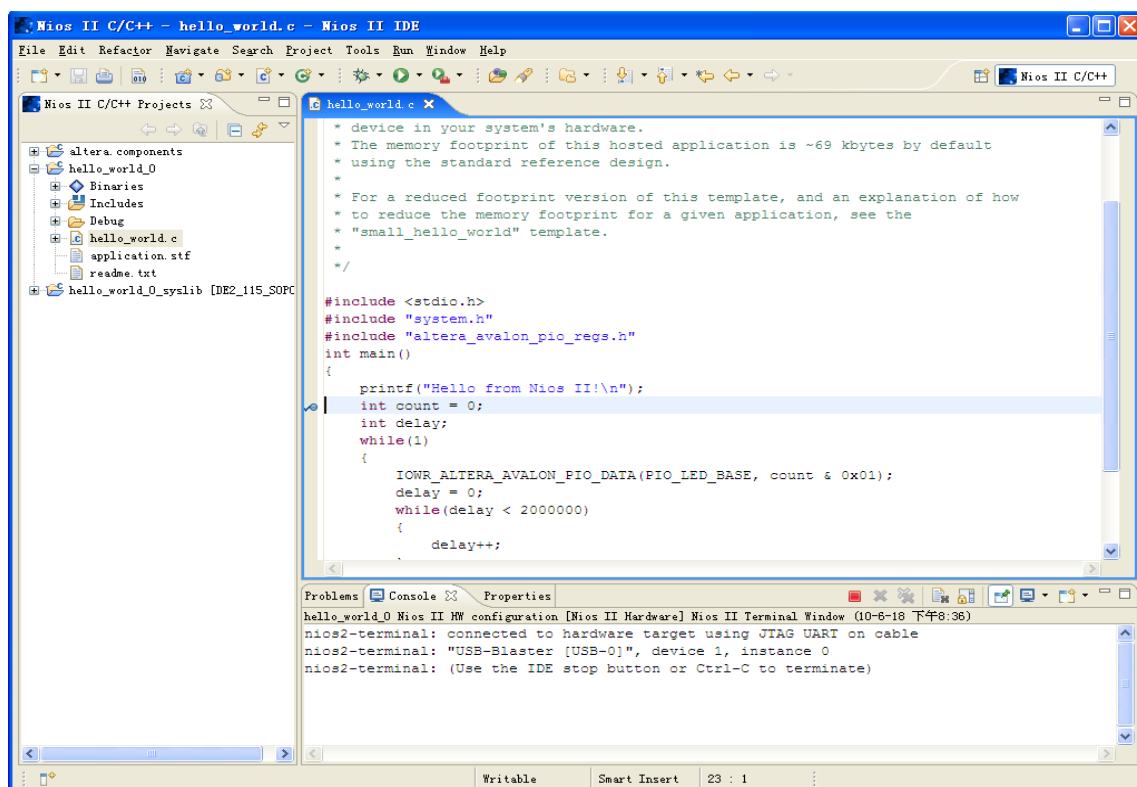

Figure 7-58 Set Breakpoint
1. In the **hello_world.c** , double-click the front of the line where you would like to set breakpoint, as shown in **Figure 7-58**.